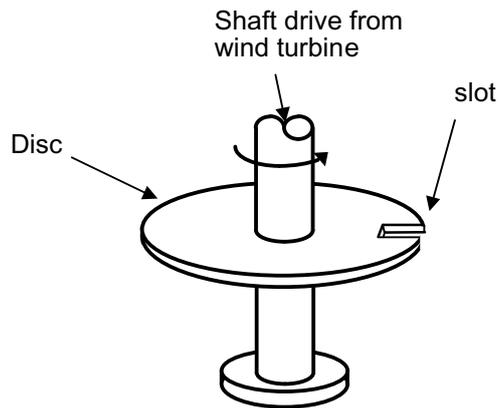

Fig. 1(a)
- 1 (a) A system to measure wind speed is shown in **Fig. 1(a)**. The system uses a turbine driven shaft which has a disc fixed to it. The rotating disc has a slot which is to be detected using a phototransistor. During tests it was found that the disc rotated at 10 revolutions per second when the wind speed was 20 kph.